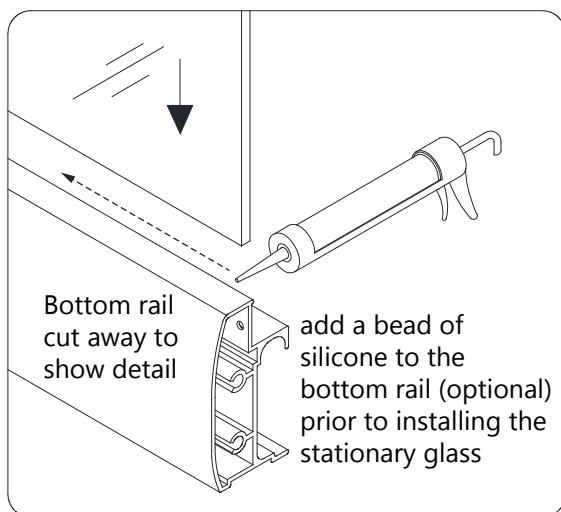

Fig 6
5. Slide the **Stationary Glass (#05)** fully into the groove of the **Glass Profile (#01)**, and then secure the **Glass Holder (#16)** to the **Bottom Guide Rail (#03)** with the **Flat Head Screw ST4.2x16 (#12)**. (Fig 6)